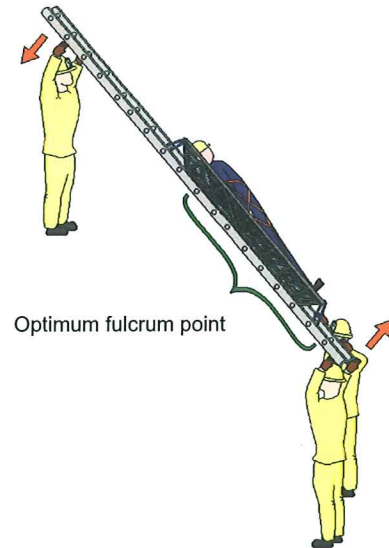

Figure 15-7: Swing System Up and Out
- Be aware of where the fulcrum point is located when levering the ladder. (Figure 15-7)